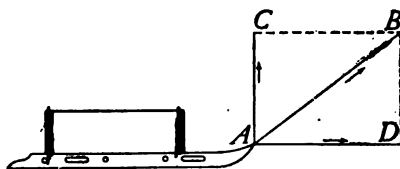

FIG. 62.— AD is the effective component.
(3) RESOLUTION OF FORCES
82. Resolution of Forces.—We have been studying the effect of forces in producing motion and of combining forces in *many* ways; in the *same line*, in *parallel lines*, and in *diverging lines*. Another case of much interest and importance is *the determination of the effectiveness of a force in a direction different from the one in which it acts*. This case which is called *resolution of forces* is frequently used. To illustrate: one needs but to recall that a sailor uses this principle in a practical way whenever he sails his boat in any other direction than the one in which the wind is blowing, *e.g.*, when the wind is blowing, say from the north, the boat may be driven east, west, or to any point south between the east and west and it is even possible to beat back against the wind toward the northeast or northwest. Take a sled drawn by a short rope with the force applied along the line *AB* (see Fig. 62); part of this force tends to